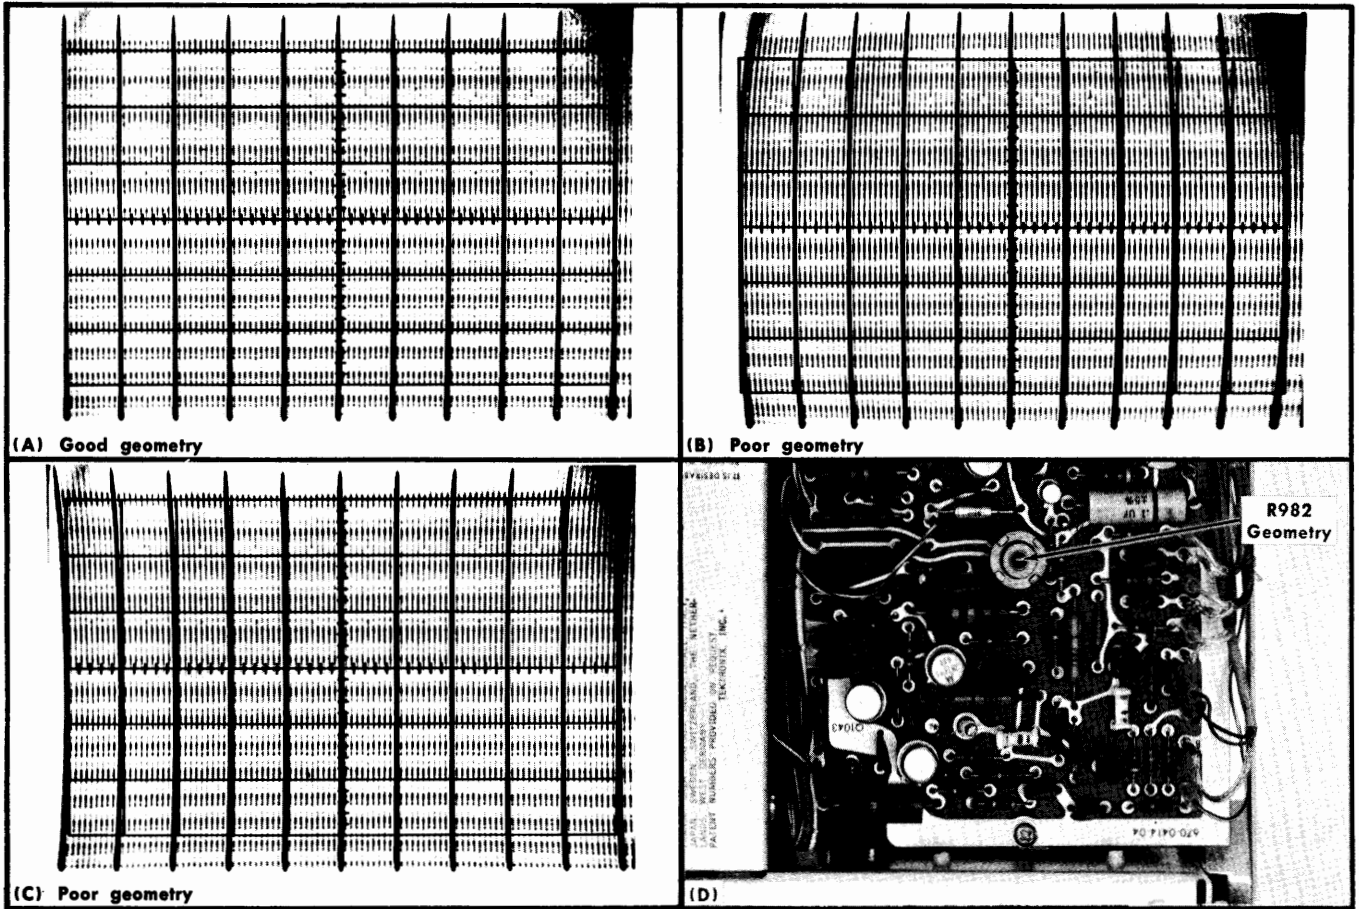

Fig. 5-9. (A) Typical CRT display showing good geometry; (B) and (C) poor geometry; (D) Location of Geometry adjustment (Z Axis Amplifier circuit board).
10. Check/Adjust CRT Geometry ①
- b. CHECK—Bowling and tilt of markers at left and right edges of the graticule. Fig. 5-9 shows a typical display of good geometry as well as examples of poor geometry.